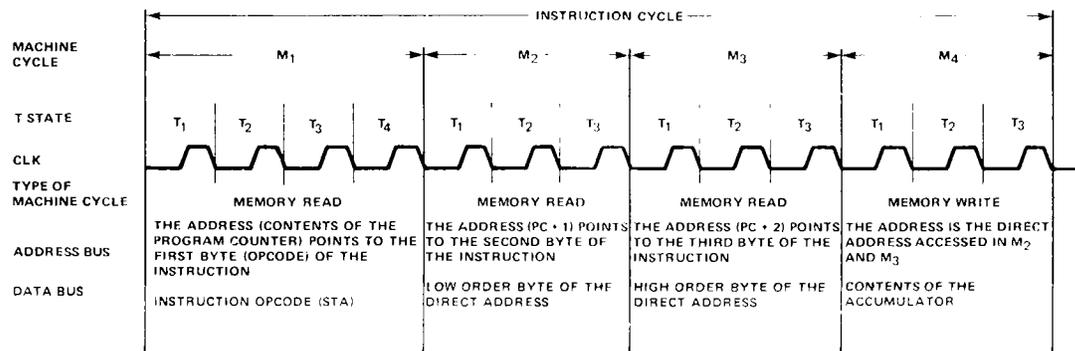

FIGURE 2-9 CPU TIMING FOR STORE ACCUMULATOR DIRECT (STA) INSTRUCTION
Each READ or WRITE operation of the 8085A is referred to as a machine cycle. The execution of each instruction by the 8085A consists of a sequence of from one to five machine cycles, and each machine cycle consists of a minimum of from three to six clock cycles (also referred to as T states). Consider the case of the Store Accumulator Direct (STA) instruction, shown in Figure 2-9. The STA instruction causes the contents of the accumulator to be stored at the direct address specified in the second and third bytes of the instruction. During the first machine cycle (M_1), the CPU puts the contents of the program counter (PC) on the address bus and performs a MEMORY READ cycle to read from memory the opcode of the next instruction (STA). The M_1 machine cycle is also referred to as the OPCODE FETCH cycle, since it fetches the operation code of the next instruction. In the fourth clock cycle (T_4) of M_1 , the CPU interprets the data read in and recognizes it as the opcode of the STA instruction. At this point the